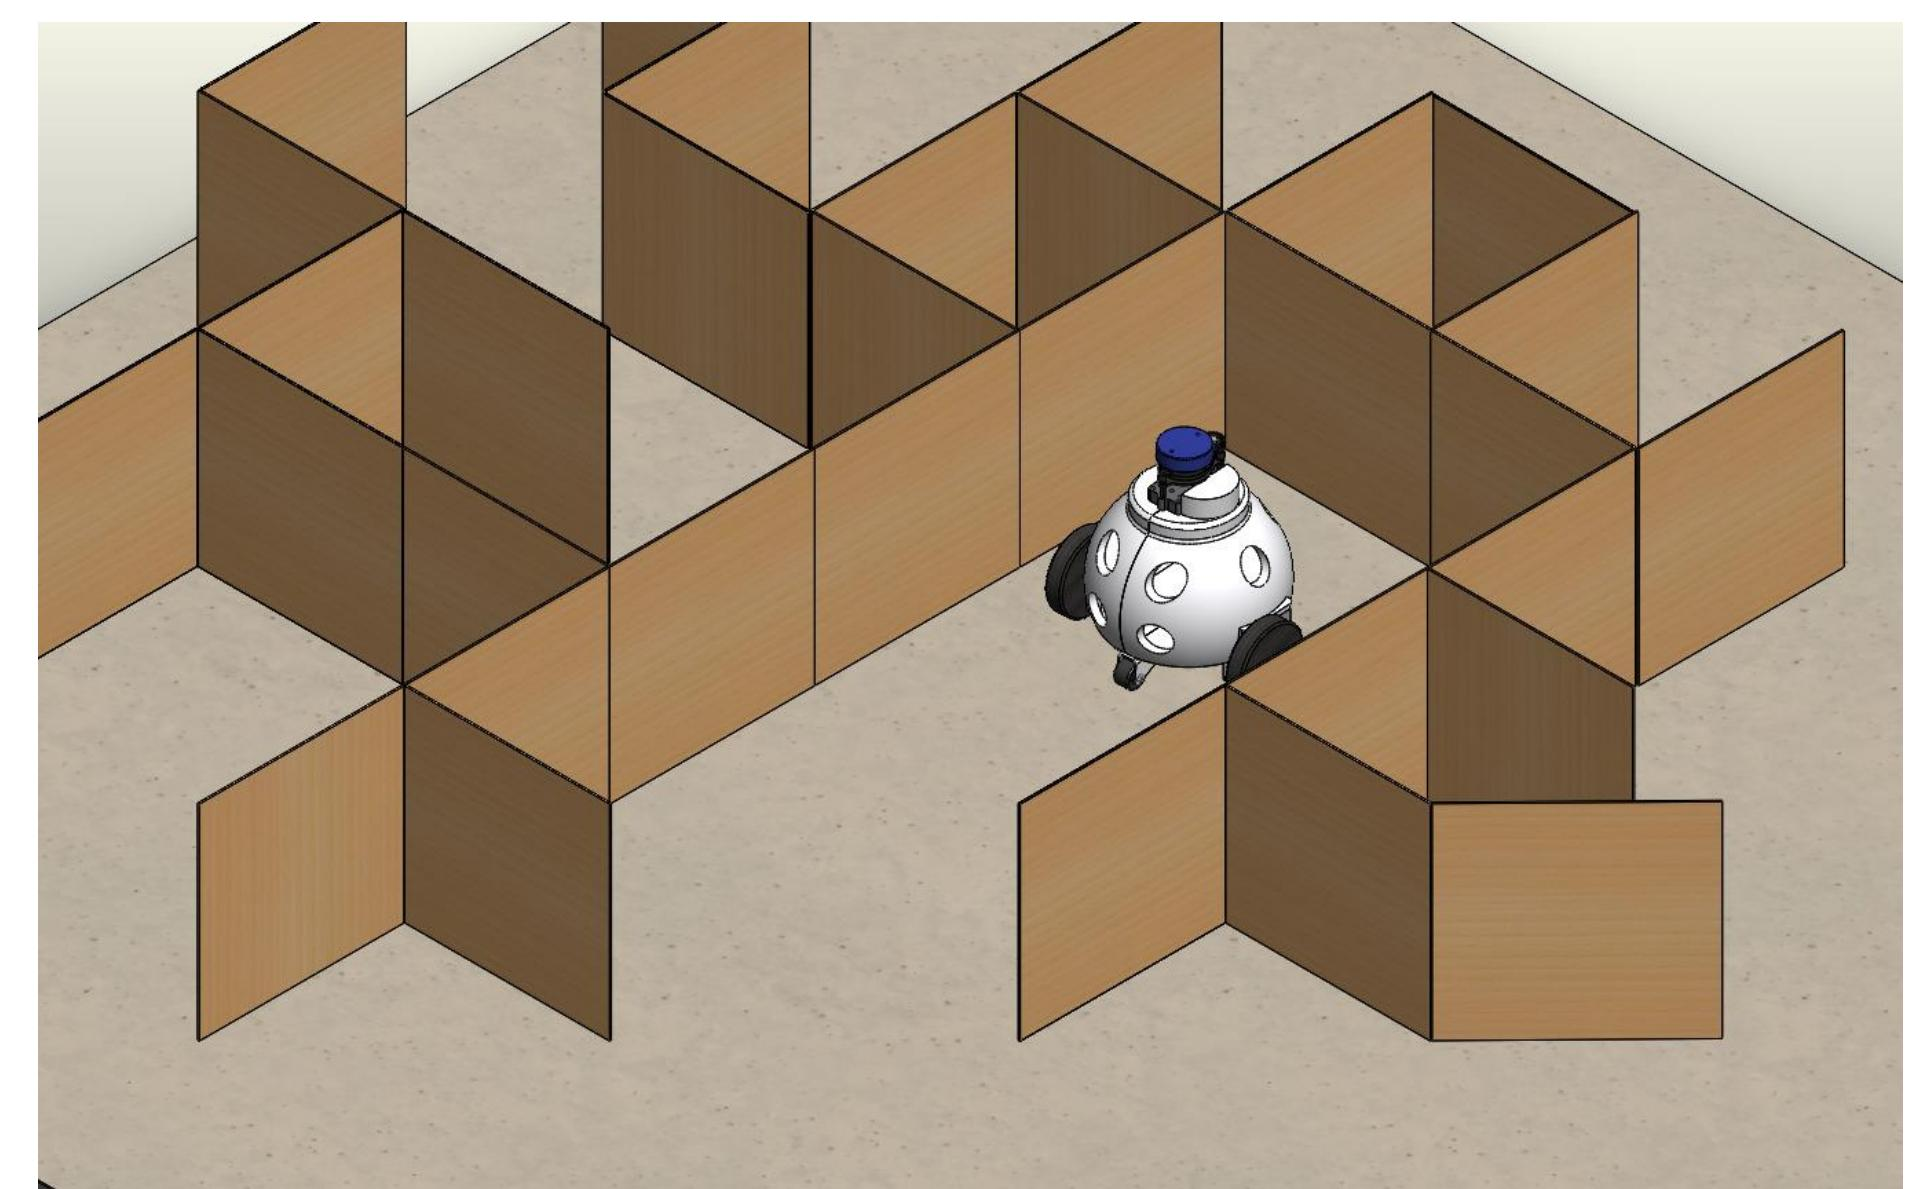

Figure 1: Robot in a Cardboard Maze Subsection
2. For each pair of line segments, a bezier curve is generated to interpolate between the endpoints of the pair (see *Figure 1*)